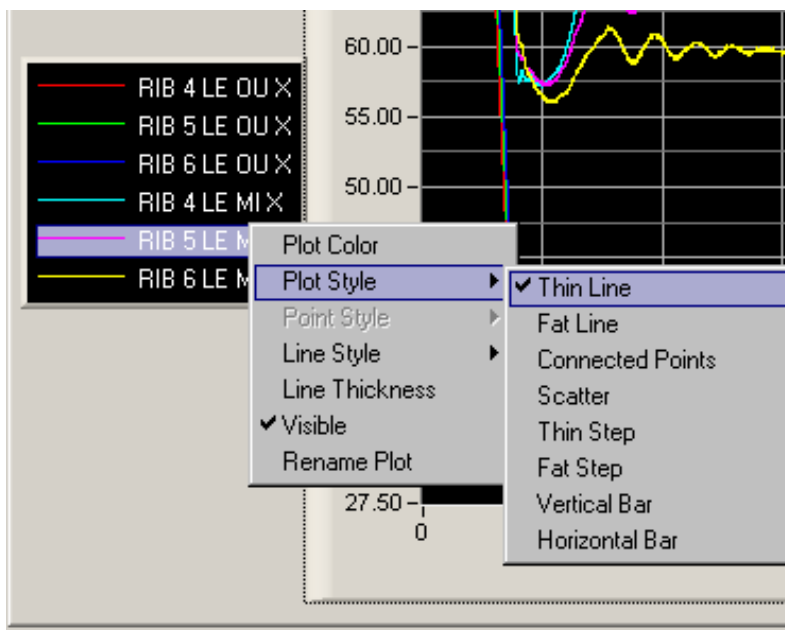

Figure 19. Changing plot styles by right-clicking on a trace in the “Legend” box
- Right-click on a trace name in the “Legend” box to change colors, line thickness, and plot style (**Figure 19**).